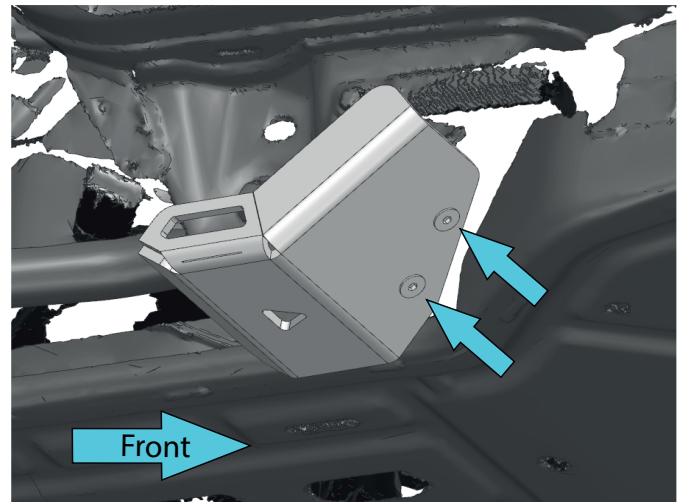

Fig. 2
2. Install the rear control arm skid plate (right) (item 2) to the factory mounting points using M6 x20 countersunk bolts (item D) (Fig. 2).